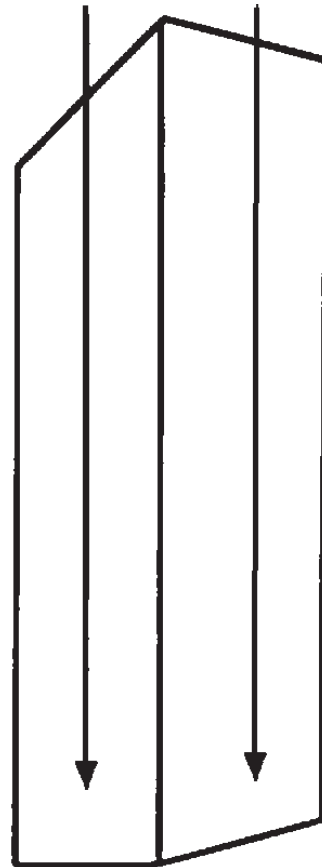

Fig. 2-7 – Checking the Mast for Plumb
7. With the plumb line, be sure the mast is vertical. Check the front and side of the mast, as shown in Fig. 2-7. When measured from the top of the mast to the bottom, the side of the mast should be within 1/4 inch of vertical. The front of the mast should be within 1/2 inch of vertical. The closer the mast is to true vertical, the smoother the lift will operate.